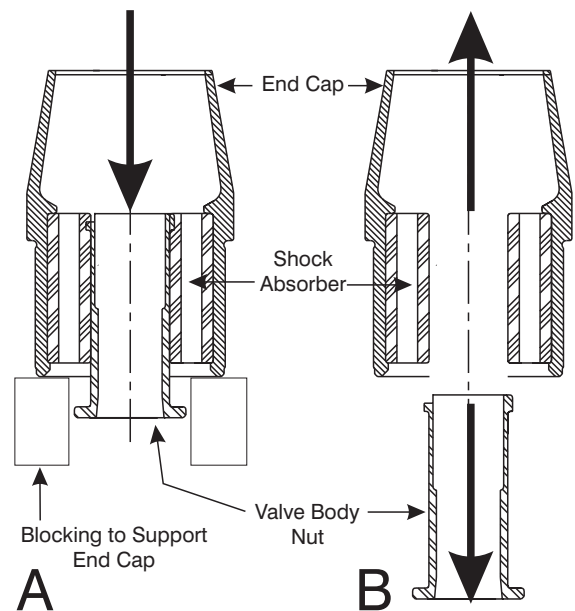

Figure 8-22. Remove Valve Body Nut from the End Cap.
4. Press the Valve Body Nut (7) from the Shock Absorber (8) as shown in Figure 8-22-A.
5. Once started from the Shock Absorber, the Valve Body Nut (7) can be pulled free by hand. Refer to Figure 8-22-B.